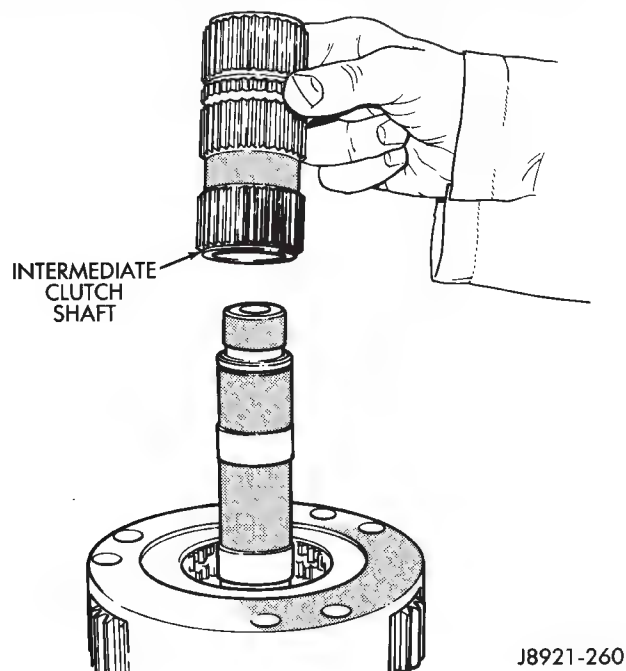

Fig. 59 Installing Intermediate Clutch Shaft
(36) Install intermediate clutch shaft (Fig. 59).